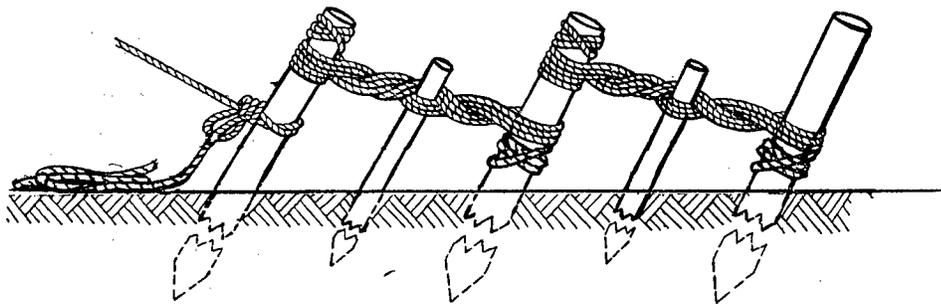

FIGURE 9.—Pickets
A. DESCRIPTION—CON.	<ul style="list-style-type: none"> <li>a. A single picket in undisturbed loamy soil will hold up to 700 pounds.</li> <li>b. A 1-1-1 combination (figure 9) will hold 1,800 pounds.</li> </ul>